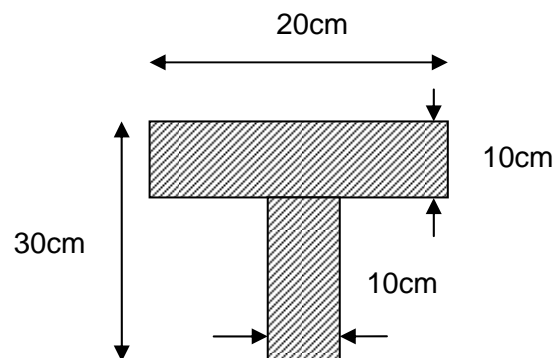

Figure 5(a)/Rajah 5(a)
- (b) A beam shown in **Figure 5(b)** with section similar to (a) above is subjected to a uniform load of 10 kN/m. Calculate the bending stress value at 7.5 cm away from the bottom of the beam section and compute the maximum bending stress in compression that can occur in such a beam system.